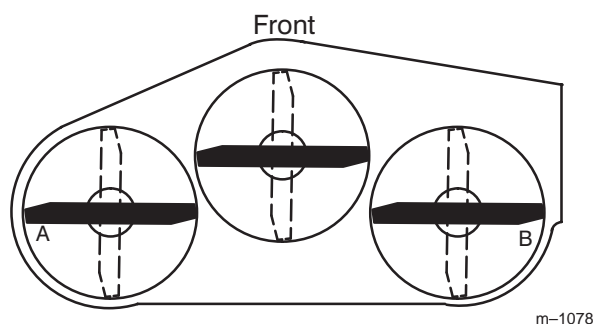
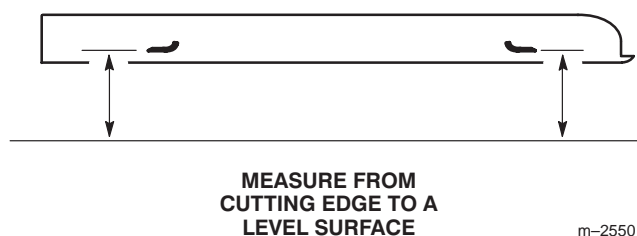

Figure 21
Figure 22
2. Position the blades side-to-side (Fig. 21). Measure at "A" and "B" locations (Fig. 21) from a level surface to the cutting edge of blades (Fig. 22).